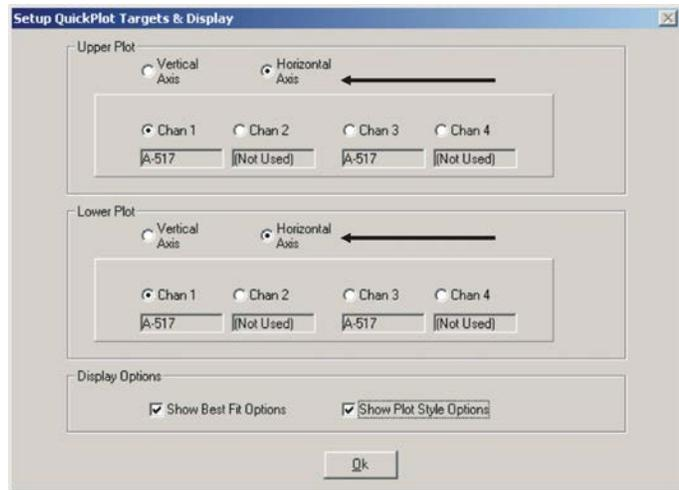

Figure 76 – Setting both plots for horizontal readings
2. Set both the upper and lower plot to take *Horizontal* center readings (see Figure 76).
3. Figure 76).